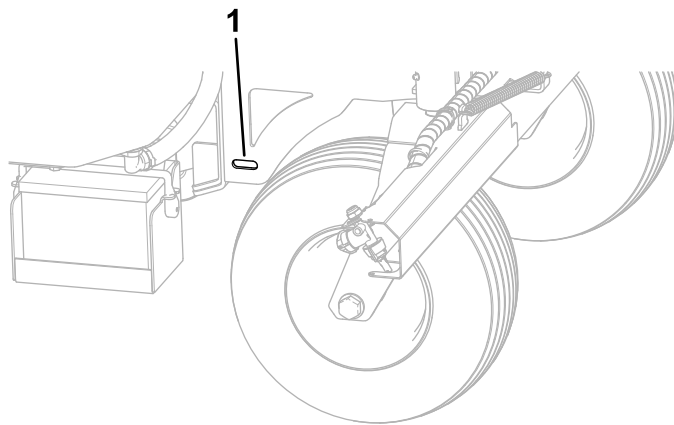
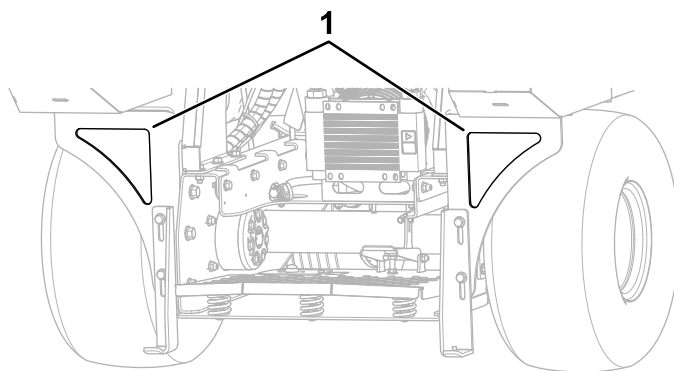
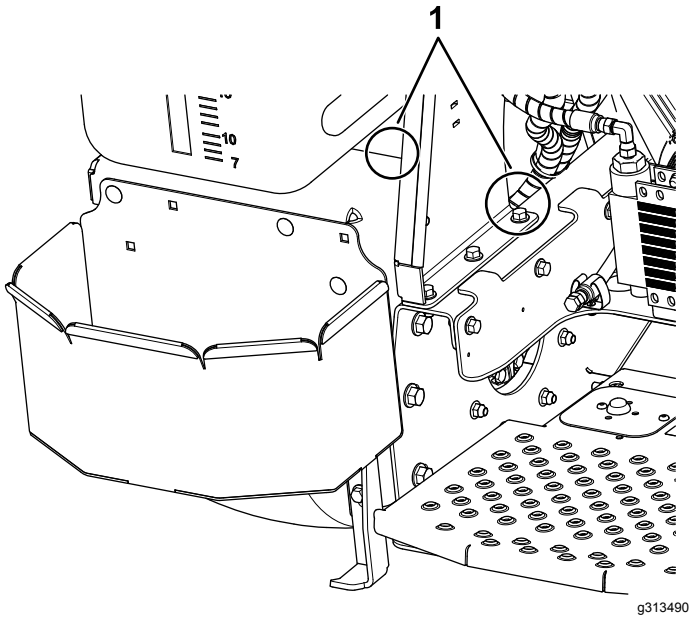

Figure 58
Figure 59
Figure 60
4. Use the tie-down points on the machine to securely bind the machine to the trailer or truck with straps, chains, cable, or ropes (Figure 58 and Figure 59 or Figure 60). Refer to local regulations for trailer and tie-down requirements.